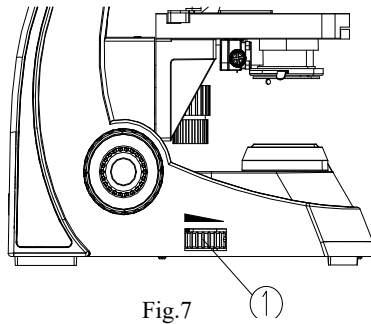

Fig.7
2. Adjust the light adjustment knob ① until the illumination is comfortable for observation. Rotate the light adjustment knob clockwise to raise the voltage and brightness. Rotate the light adjustment knob counterclockwise to lower the voltage and brightness (see Fig. 7).